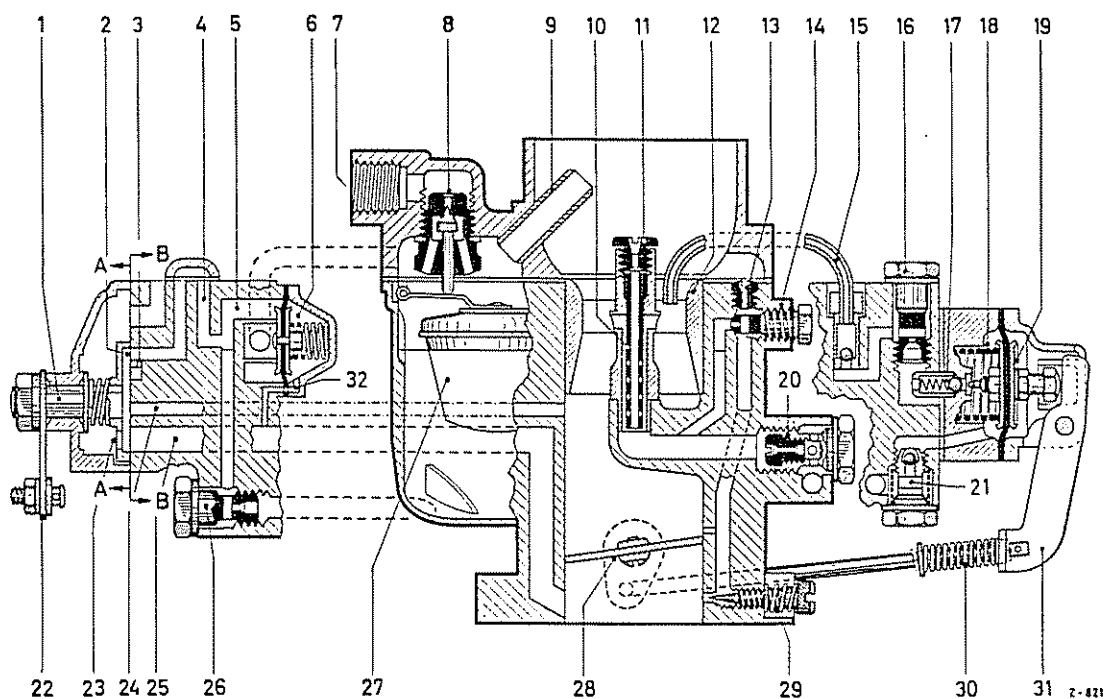

Fig. 07-0/10 c
The acceleration pump used for carburetor 34 PJCB is a so-called "neutral" pump (carburetor 32 PJCB has a strengtening or enriching pump). With a neutral acceleration pump the engine is able to take in additional fuel by way of the injection tube (15) and bore (17) from the pump system at partial load and at full load, depending on the vacuum in the air horn, without operating the accelerating pump (Fig. 07-0/10 c).